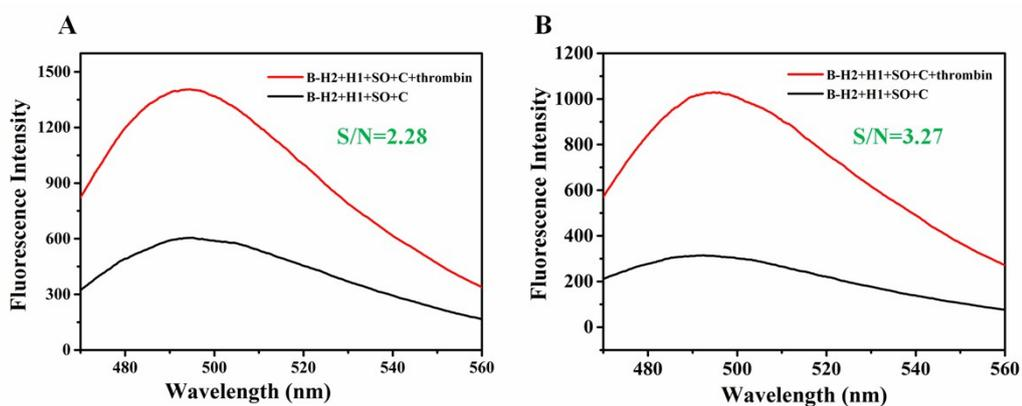

Fig. S2 The fluorescence responses of the nanofibrous membranes with (A) no-washing and (B) washing. The concentration of thrombin was 10 nM.
2. The fluorescence responses of the nanofibrous membranes (Fig. S2)